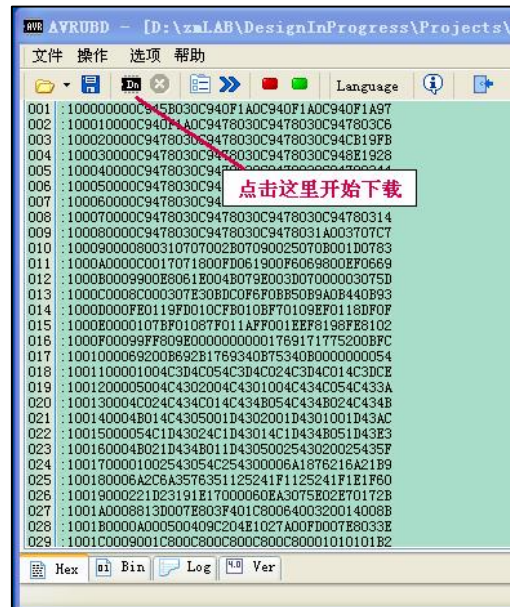

Fig. 6
- 7) Click at “Dn” icon (see Fig. 6, or you can click at “Operate – Download” from the main menu) and immediately make the micro-controller board enter bootloader. **Different**